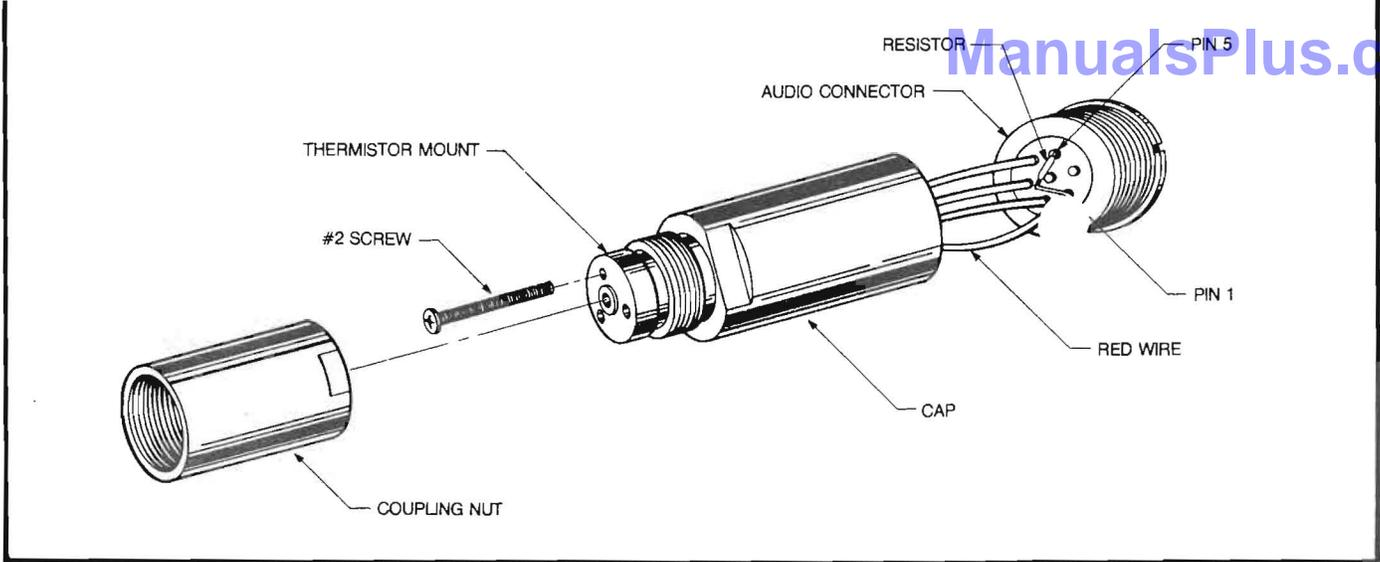

Figure 4. Resistor Replacement for Detectors Used With the Model 1045 Unit
Figure 4 Model 1038-N10 and NS20 System Coaxial Detector Accuracy from 30MHz to 26.5GHz. (An additional 0.2dB is added to the deviation reading for operation from 1 to 30MHz)
- 5. Using Figure 4 on page 4 of this sheet as a guide, unscrew the coupling nut from the cap. Remove the #2 screw from the thermistor mount so that it is free to revolve in the cap.